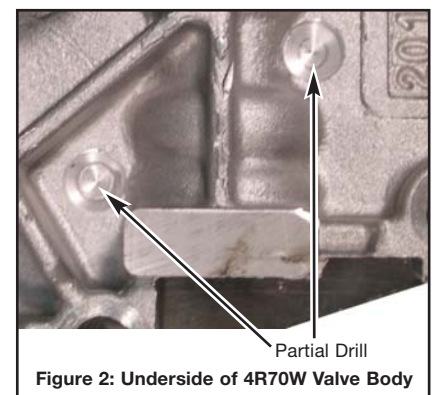

Figure 2: Underside of 4R70W Valve Body
**Warning:** Do NOT drill deeper than  $\frac{1}{16}$ " with the  $\frac{5}{16}$ " drill bit! (see Figure 2).